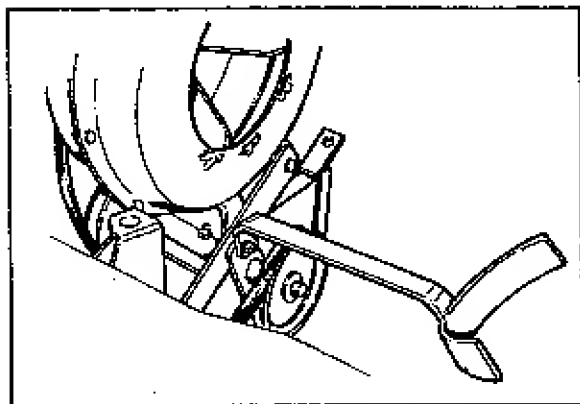

FIGURE 10
1. The blower unit comes fully assembled except for the hose support bracket. Attach this bracket as shown in Figure 10. Attach the blower unit to the tractor rear hitch by means of the pins and clips provided. The hose support bracket should be adjusted to allow ample clearance between hose and left rear tire.